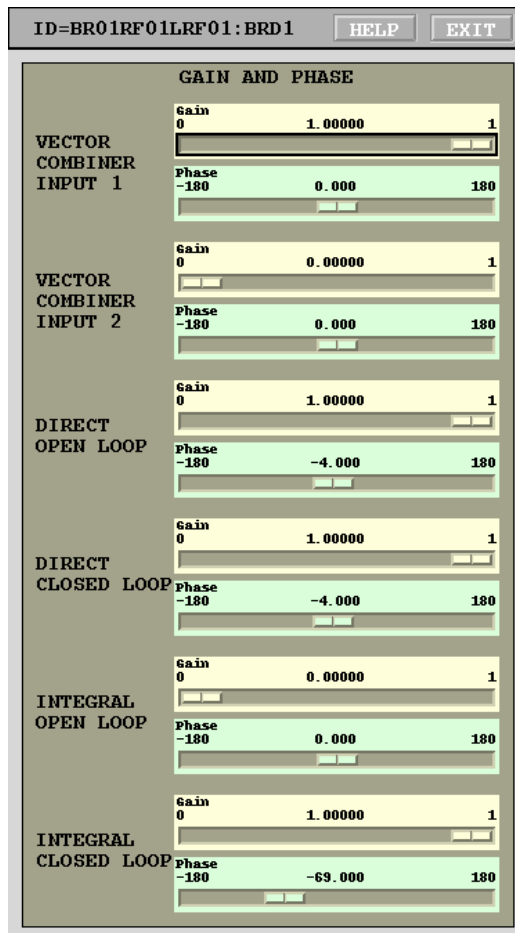

Figure 11: Field control loop gains and phases panel.
5. Open the gains and phases panel (Fig. 11, accessible from the feedback panel or the top level diagram panel). Set VECTOR COMBINER INPUT 1 to a gain of 1 and a phase shift of 0. Set DIRECT OPEN LOOP to a gain of 1 and a phase shift of 0. Make sure the gains for the VECTOR COMBINER INPUT 2 and the INTEGRAL OPEN LOOP are set to 0.